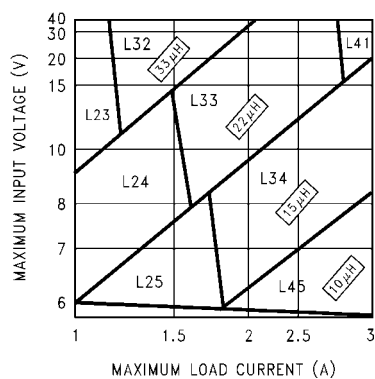
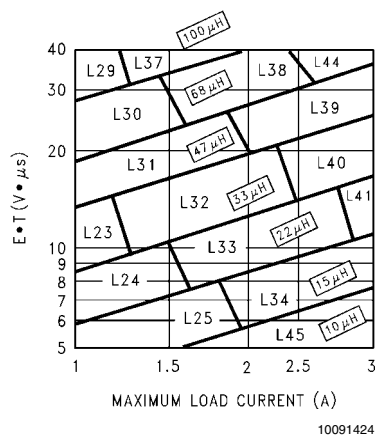

FIGURE 3. LM2676-3.3
FIGURE 6. LM2676-ADJ
Step 3: Determine the inductor required by using one of the four nomographs, Figure 3 through Figure 6. Table 1 provides a specific manufacturer and part number for the inductor.
Step 5: Determine an input capacitor from Table 4 for fixed output voltage applications. Use Table 2 to find the specific capacitor type. For adjustable output circuits select a capacitor from Table 2 with a sufficient working voltage (WV) rating greater than $V_{in\ max}$, and an rms current rating greater than one-half the maximum load current (2 or more capacitors in parallel may be required).
Step 3: Use the nomograph for the 3.3V device, Figure 3. The intersection of the 16V horizontal line ($V_{in\ max}$) and the 2.5A vertical line ($I_{load\ max}$) indicates that L33, a 22 μ H inductor, is required.
Step 3: To use the nomograph for the adjustable device, Figure 6, requires a calculation of the inductor Volt•microsecond constant ($E \cdot T$ expressed in $V \cdot \mu S$) from the following formula:
Using Figure 6, the intersection of 27V•μs horizontally and the 2A vertical line ($I_{load} \text{ max}$) indicates that L38, a 68μH inductor, should be used.
Important Note: When using the adjustable device in low voltage applications (less than 3V output), if the nomograph, Figure 6, selects an inductance of 22μH or less, Table 6 does not provide an output capacitor solution. With these conditions the number of output capacitors required for stable